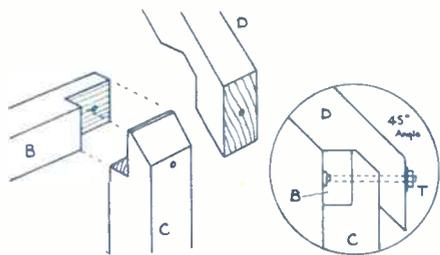

Fig. 2
In Fig. 2 we see how the three members (B, C, D) of the frame are articulated. (B) and (C) are joined by simple half-lap joints, a shoulder being sawn off the upright (C), so that it fits snugly into the spar (D). The cut-out in (D) is easily done with saw and chisel, the angles being 45°. A hole is bored through all the members to take a bolt (T) of at least 1/4in. diameter. This bolt will hold the three spars firmly together. (See Fig. 2, inset).